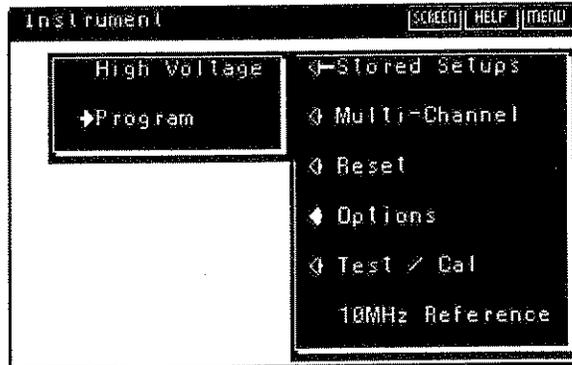

Figure F-1. Instrument/Options Screen
3. Press the INSTRUMENT key on the front panel, and select OPTIONS; see figure F-1.